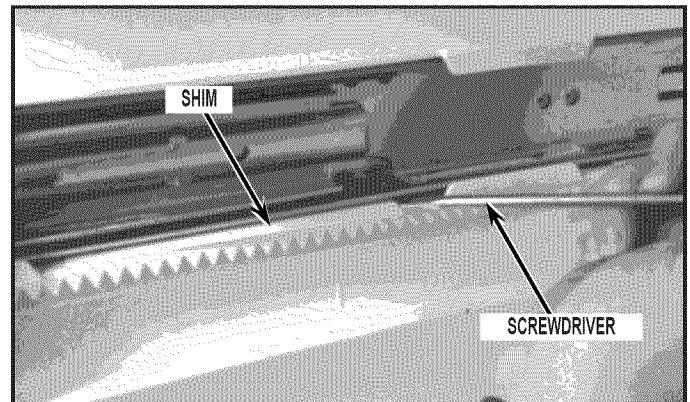

FIGURE 5
**NOTE:** Shim Removal (if needed) - To take the shim out, use a flathead screwdriver on the short end of the shim to rock it out of place. If it's too tight to grab with your fingers, you can use pliers to put it out. See *Figure 5*.